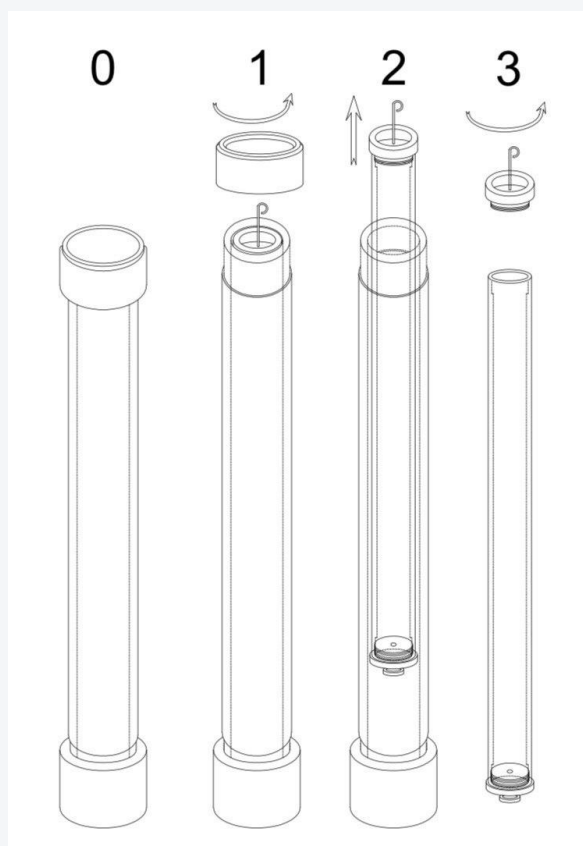

FIG. 4 – FILTER SERVICE SEQUENCE, STEPS 0–3
3. Open the filter cap — both side caps, Fig. 4 step 1.